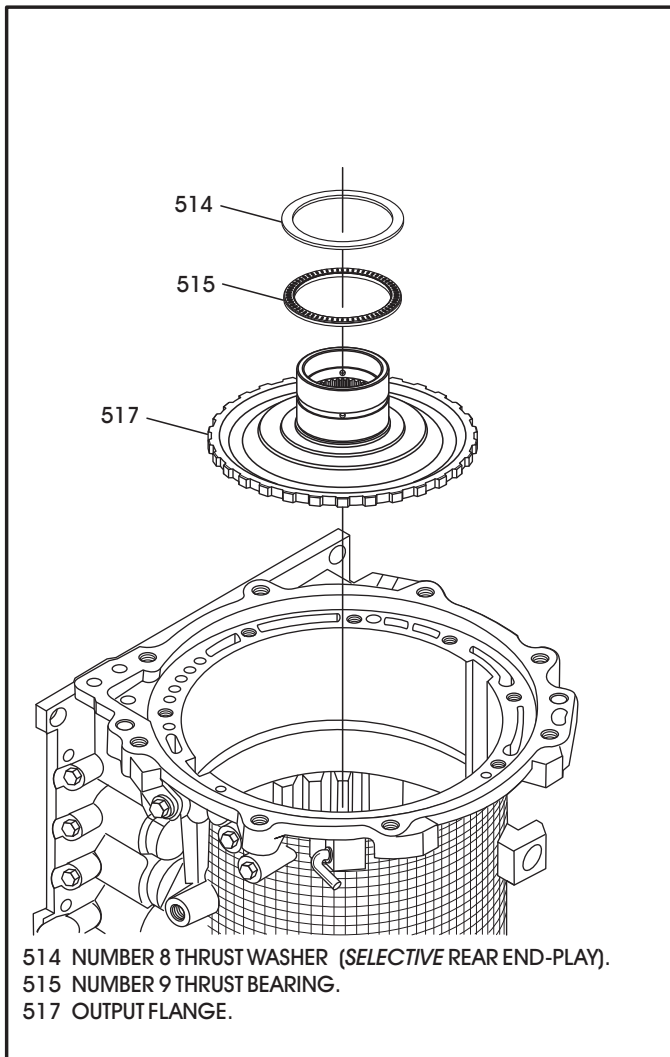

Figure 54
1. Remove the number 8 selective thrust washer, as shown in Figure 54.
2. Remove the number 9 thrust bearing, as shown in Figure 54.
3. Remove output flange, as shown in Figure 54, by lifting straight up.